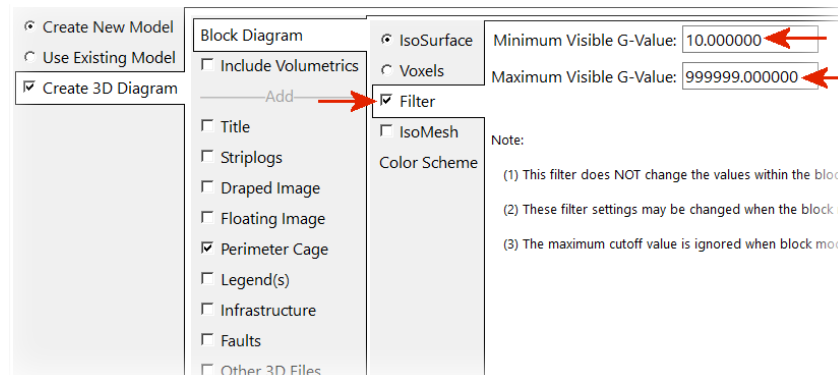

Figure 72
- Enable the *Create 3D Diagram* option, select the *Block Diagram* tab, and enable the *Filter* option (Figure 72). Set the *Minimum Visible G-Value* to 10.0 and the *Maximum Visible G-Value* to an absurdly high value (e.g., 999999). This will render portions of the diagram below 10 (the MCL for this fictitious project) to be invisible.